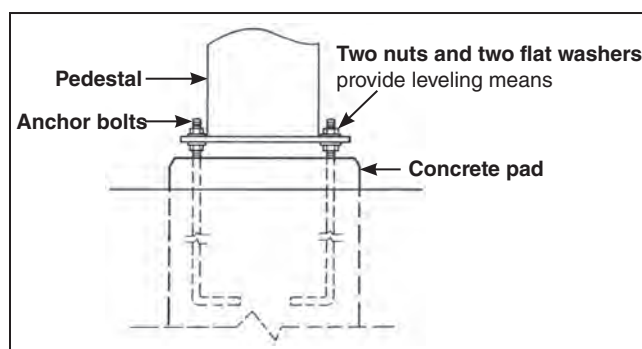

Figure 3. Pedestal anchor-bolt mounting detail.
- (a) Install the lower set of anchor bolt nuts and flat washers onto the pre-installed anchor bolts. Level all anchor bolts to the same height, leaving space below and above the bolt for leveling. See Figure 3.
- (d) Lower the pedestal onto the anchor bolt nuts and flat washers. Loosely secure a flat washer and nut to each anchor bolt. See Figure 3. Remove lifting slings and eyebolts.
- (e) Adjust the lower set of anchor-bolt nuts to plumb and level the pedestal. The upper set of anchor bolt nuts should remain loosely attached. See Figure 3.
STEP 6. Check the lower set of anchor-bolt nuts at each mounting pedestal to verify that all nuts are in contact with the bottom of the pedestal. Hand-tighten the anchor-bolt nuts as necessary, and then securely tighten the upper set of anchor-bolt nuts at each mounting pedestal. See Figure 3 on page 11.